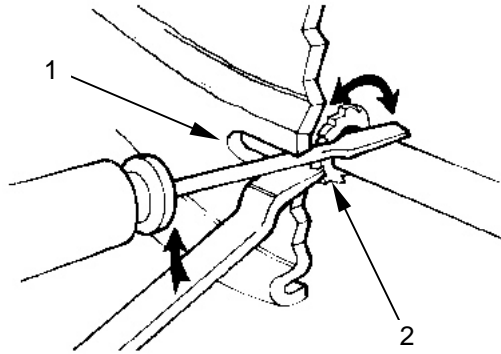

Figure 26. Star Wheel Adjustment
- j. Remove the plug covering the adjustment access slot (**figure 26, item 1**) located on the rear of the brake assembly.
- l. While holding the adjusting tool away from the star wheel (**figure 26, item 2**) with a small screwdriver, turn the adjuster up until the drum turns freely.